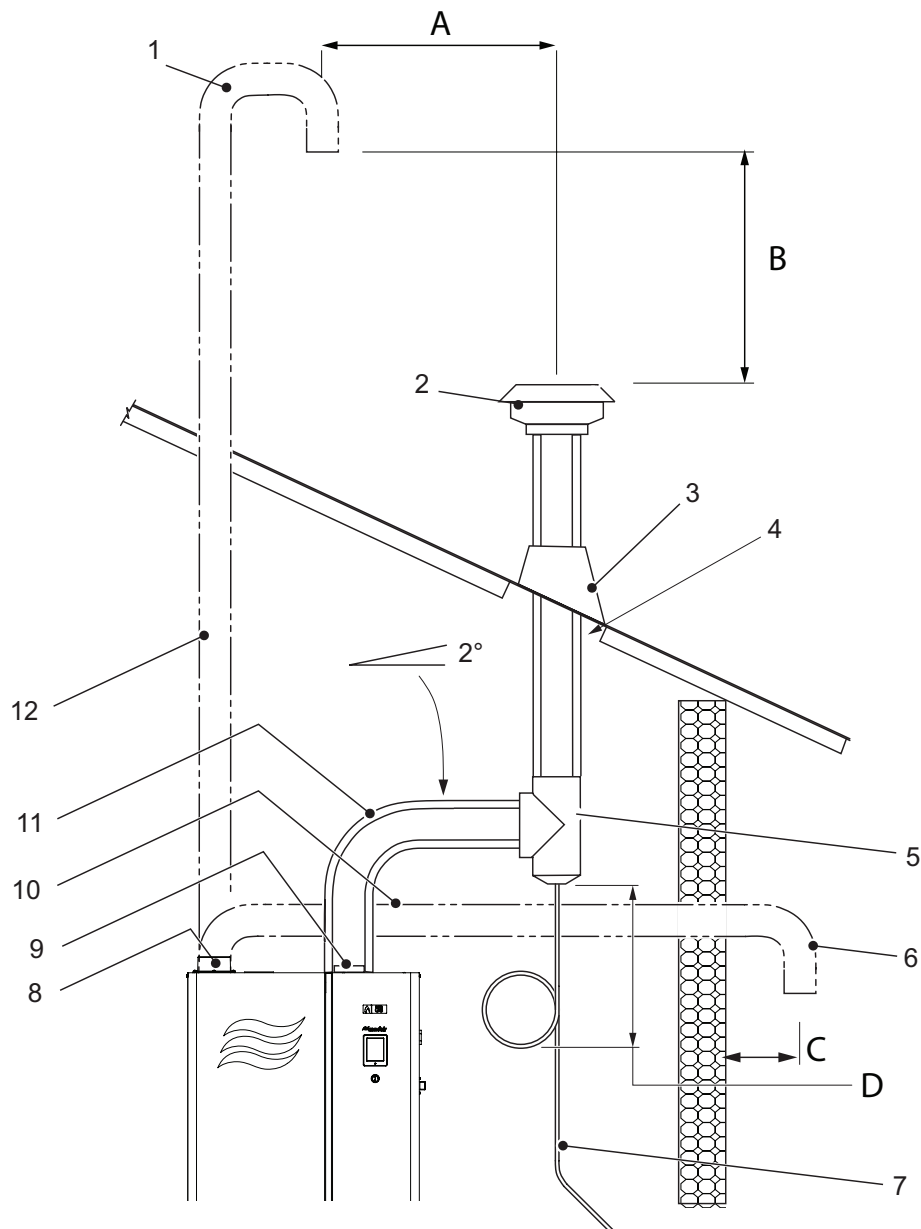
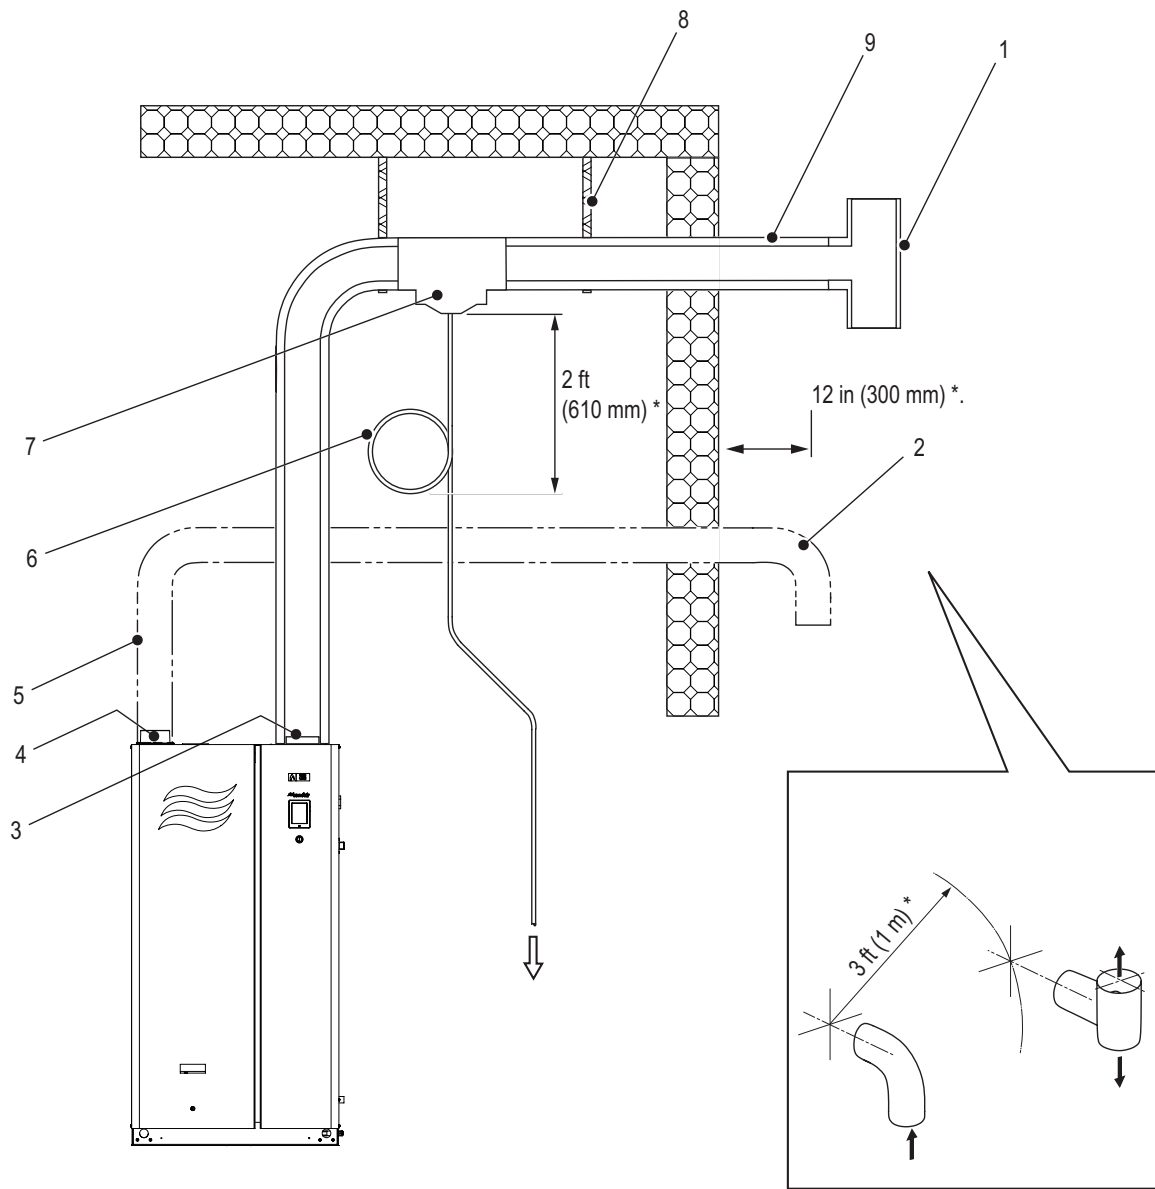
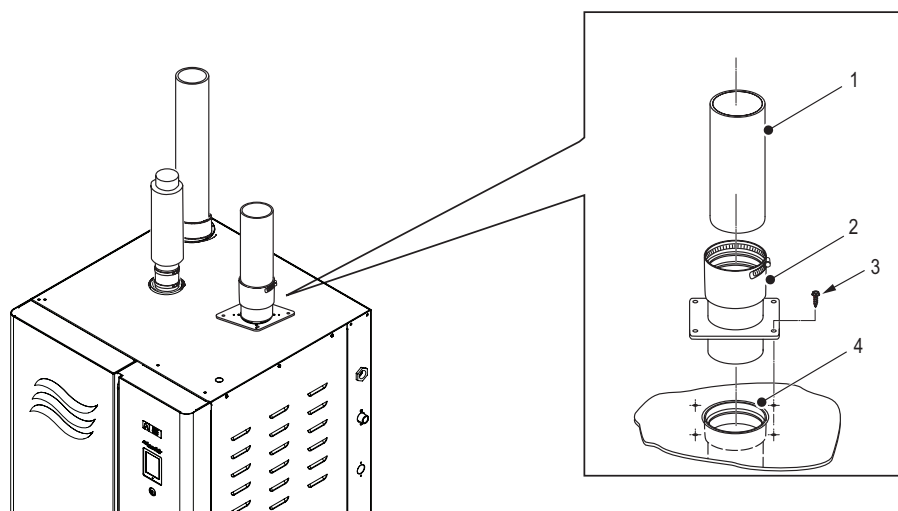

Figure 19: Vertical Venting (with Optional Sealed Combustion Hookup) – Category IV
Figure 20: Horizontal Venting (with Optional Sealed Combustion Hookup) – Category IV
Figure 21: Exhaust Vent Connection – CS/NX/MT Model (Category IV Appliance)
Figure 19 on page 43 and Figure 20 on page 44 show the general types of venting arrangements. These are guidelines only. For the specific venting arrangements refer to "Installation as a Category IV Appliance" on page 45, and "Gas Connection" on page 47. Adhere to all national or local codes.
To connect the exhaust vent, first insert the adaptor into the exhaust outlet and secure it to the top panel with four sheetmetal screws (supplied) – refer to Figure 21. Then slide the exhaust vent into the adaptor until it bottoms out, and secure it with the clamp built into the adaptor. A sealant is not required.
- **Category IV** appliances can be vented vertically or horizontally, and can terminate on a rooftop or sidewall provided they meet the requirements of the National Fuel Gas Code (ANSI Z223.1), or CAN/CGA B149 Installation Codes. Refer to Figure 20 on page 44 and Figure 21 on page 45. Adhere to vent manufacturer's instructions.
- Category IV: During normal operation, a Category IV appliance will create exhaust condensate. Install condensate drain lines according to vent manufacturer's instructions every 15 ft (4.5 m) on all horizontal runs, and at every horizontal-to-vertical transition. Install a full "Tee" with condensate port and trap at all horizontal-to-vertical transitions. The condensate trap must be minimum 12 in (300 mm) in diameter. Refer to Figure 20 on page 44 and Figure 21 on page 45.